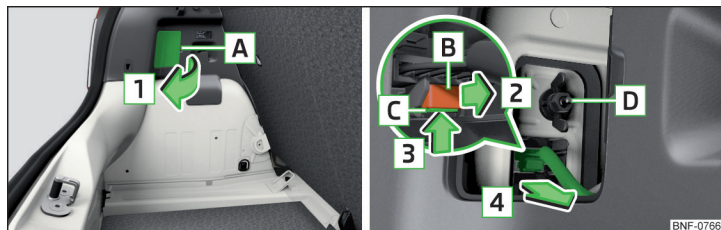

Fig. 179 Remove light / pull out connector
- › Open up the flap in area  in the direction of arrow  » Fig. 179 .
- › Screw in and tighten the plastic nut  » Fig. 179 .